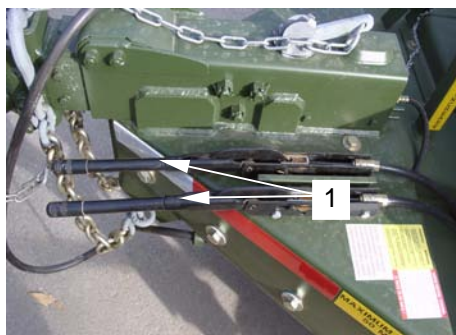
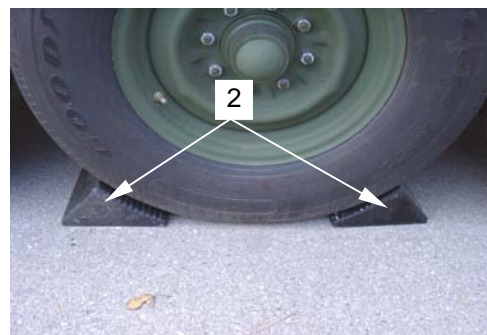

Figure 1. Parking Brakes ON
Figure 2. Chocks in Place
1. Ensure trailer parking brakes (**figure 1, item 1**) are ON (brake handles in horizontal position) and chocks (**figure 2, item 1**) are in place.
13. Remove chocks (**figure 2, item 1**) from trailer wheels and release the parking brakes (**figure 10, item 1**) on the trailer (brake handles in vertical position).